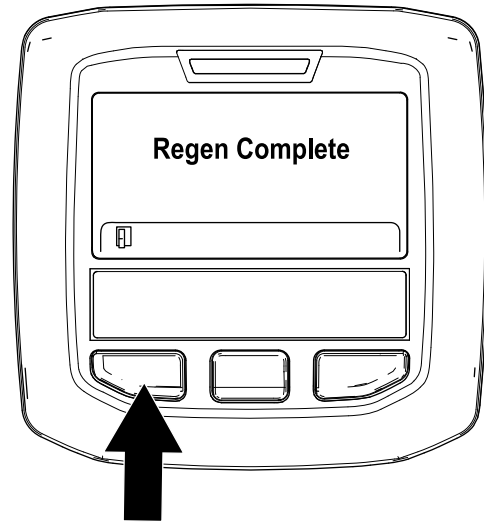

Figure 50
- The parked regeneration is complete when the “Regen Complete” message displays in the InfoCenter. Press the left button to exit to the home screen (Figure 50).